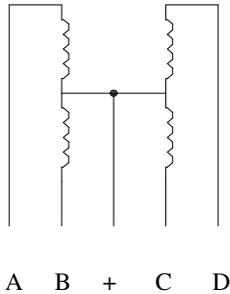
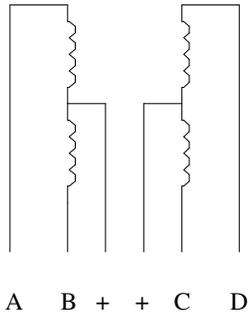

Fig 1. Five-wire stepper motor
Fig 2. Six-wire stepper motor
2. Unipolar motors. These have two center-tapped coils which are treated as four coils. These motors can have **five, six or eight wires**. Five-wire motors have the two center-taps commoned internally and brought out as one wire (Fig 1). Six-wire motors bring out each center-tap separately. The two center-taps need to be commoned externally (Fig 2). Eight-wire motors bring out both ends of each coil. The four "center-taps" are joined externally to form one wire. In each case the center-tap(s) are connected to a positive motor power supply. Unipolar motors may be connect as bipolar ones by not using the '+' wires.